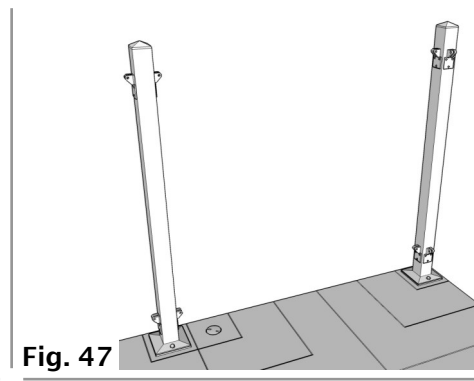

Fig. 47
**22.** Next, install an In-Line Post 40" from the End Post or Corner Post (Fig. 47).